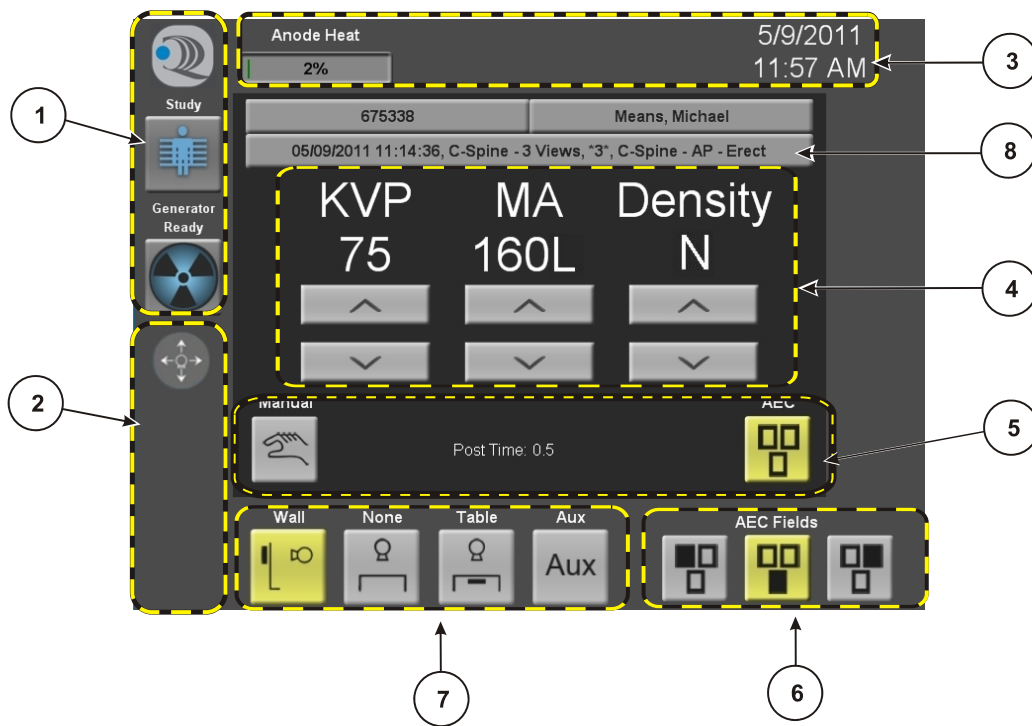
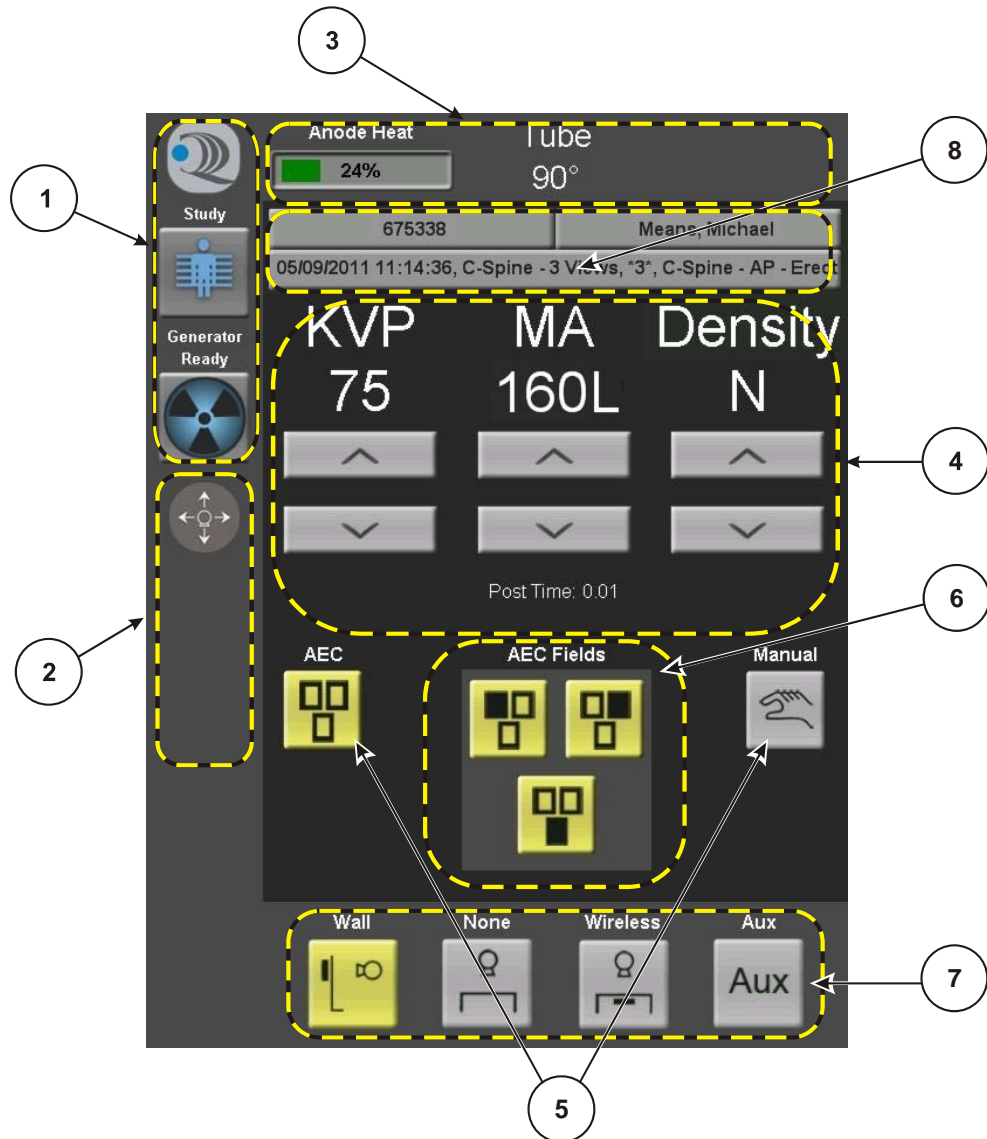

Figure 3-1. Sample TechVision Display Screen - Landscape Orientation
Figure 3-2. Sample TechVision Display Screen (Portrait Orientation)
Figure 3-1 is an example of the Display Screen as it would appear on TechVision when the tube head is directed toward the table (referred to as "landscape" orientation). If the tube head is rotated 90°, as when it faces the upright wall stand, this same screen will appear on the TechVision display in "portrait" orientation as shown in Figure 3-2.
5. **AEC** and **Manual** buttons in the designated area (vertical) provided in landscape orientation (Figure 3-1), and in portrait orientation, the horizontal area just below the Generator Settings, as shown in Figure 3-2.
When the "Prep" button is pressed (a hand-held switch mounted in near proximity to the generator operator control panel), a gray X-ray radiation symbol briefly appears in the generator status area (section 1, Figures 3-1 and 3-2), followed by a green "Prepped" radiation symbol. Similarly, when the "Expose" button is pressed, a yellow "Expose" radiation symbol appears in the generator status area.